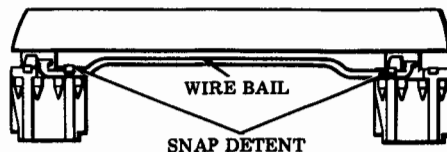

Fig. 4—Wire Bail Removal
- Remove the wire bail from the left and right spacebar guides (snaps in and out) (Fig. 4).